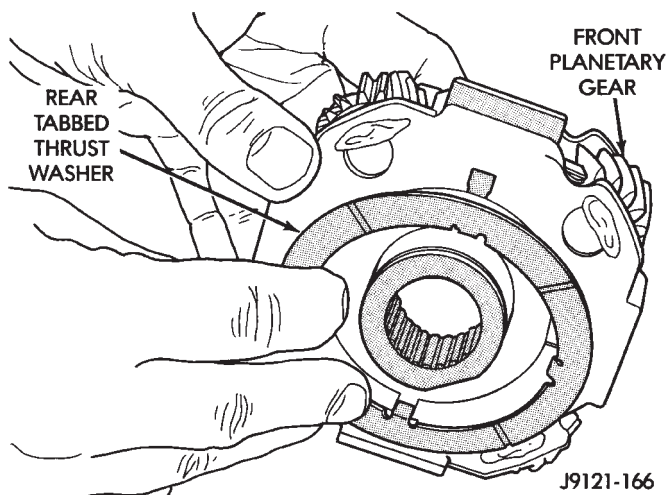

Fig. 237 Installing Rear Thrust Washer On Front Planetary Gear
(13) Install rear thrust washer on front planetary gear (Fig. 237). Use enough petroleum jelly to hold washer in place and be sure all four washer tabs are seated